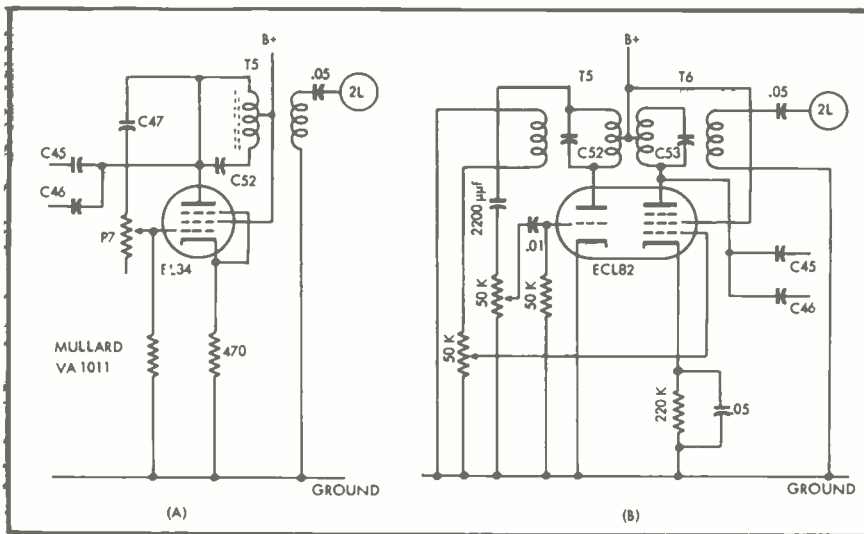

Fig. 10. Two possible circuits suitable for the bias/erase oscillator.
(3) Two out of the many possible oscillator circuits will be found in Fig. 10. In the oscillator of (A),  $V_{11}$  is omitted altogether, and  $V_{11}$  is a Mullard EL34.  $P_7$  is returned to ground through the Varite thermistor type V1011, adjustments being made as before. The EL34 is a power valve capable of a really remarkable r.f. output, and the thermistor stabilizes the drive to the grid, chiefly in the direction of bypassing it when the current increases beyond a predetermined level. In (B) of Fig. 10,  $V_{11}$  is again dispensed with, and a Mullard ECL82 is substituted for  $V_{11}$ . This is a combined triode-output pentode, the master oscillator being the triode section. Control is by grid-leak bias, and the circuit is largely self-regulating. As the amplitude of the oscillations increases, the grid capacitor charges and raises the negative bias, until a state of balance is reached in which the oscillations are the maximum